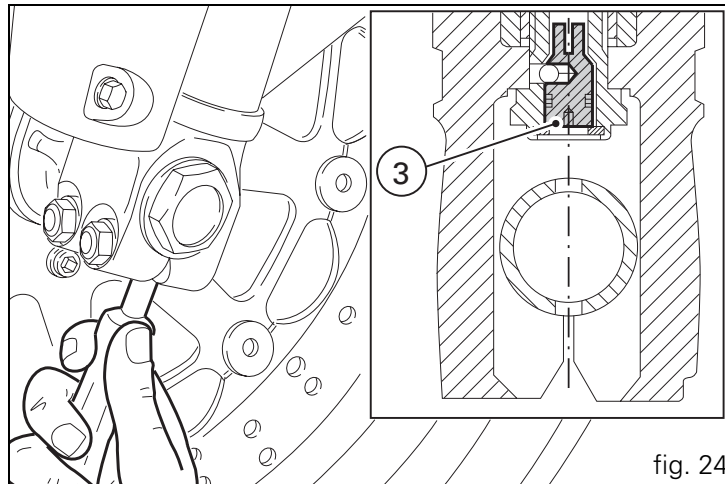

fig. 24
- 3) (fig. 24) to adjust compression damping.
To adjust the rebound damping setting, turn the adjuster (1) on the top of each fork leg with a flat screwdriver. To turn the adjuster (3, fig. 24), insert a screwdriver through the base of the fork tube and the hole in the wheel axle as shown. Adjusters (1) and (3) have click positions corresponding to different damping settings.